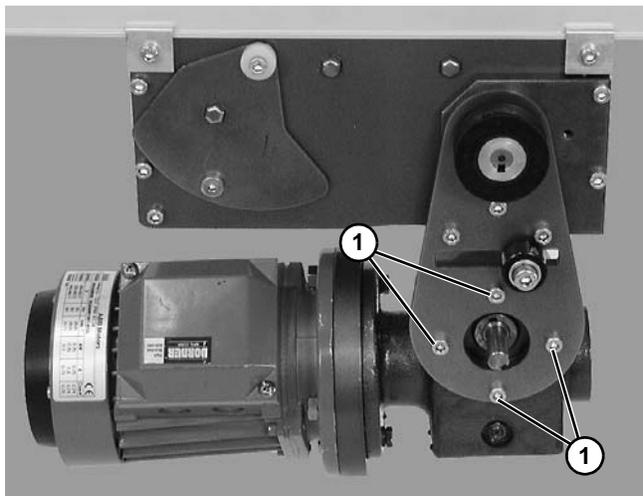

Figure 17
- Remove four (4) gear reducer mounting screws (**Figure 17, item 1**). Remove gearmotor.